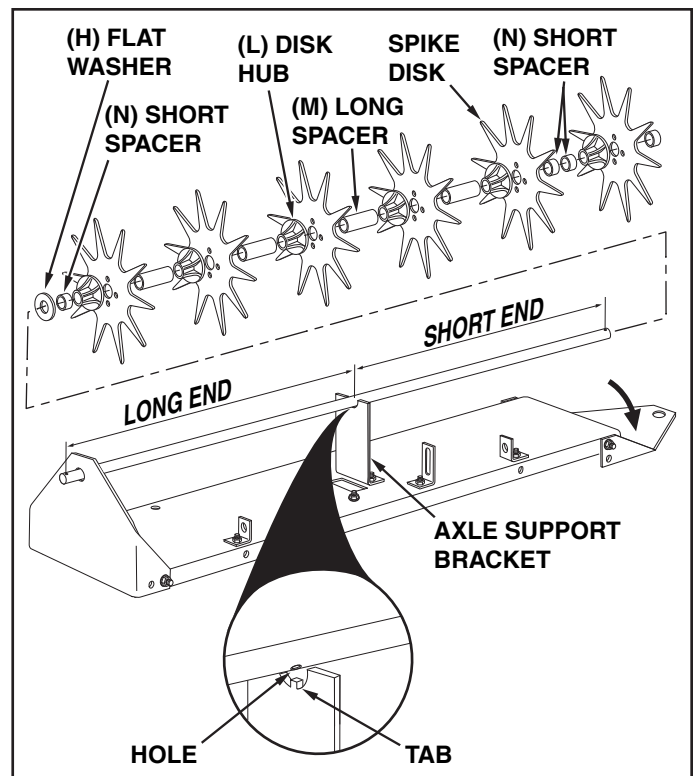

FIGURE 3 REAR VIEW
4. Pivot the end plate on your right side down out of the way. Place the long end of the axle, measured from the middle blind hole, through the pivot plate on your left side. (If there are two middle holes, use the hole that is in alignment with the end holes.) Fit the middle hole in the axle down onto the tab on the axle support bracket. See figure 3.
5. Assemble the following parts in sequence onto the short end of the axle (as shown in figure 3):
- a. A flat washer (H), short spacer (N), disk hub (L) and spike disk
- b. A long spacer (M), disk hub (L) and spike disk.
- c. A long spacer (M), disk hub (L) and spike disk.
- d. A long spacer (M), disk hub (L) and spike disk.
- e. A long spacer (M), disk hub (L) and spike disk.
- f. Two short spacers (N), a disk hub (L) and spike disk.
- g. A short spacer (N).